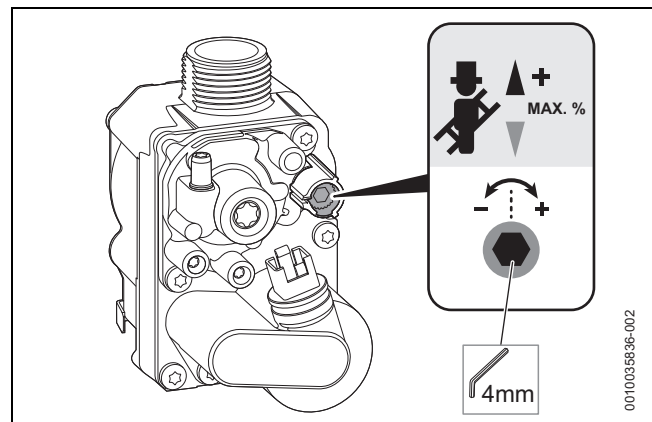

Fig. 85 Setting the CO₂ content
- ▶ Insert the hex tool into the adjusting screw of the gas valve (as shown in the below Figure 85) and set the CO₂ content for maximum rated output.